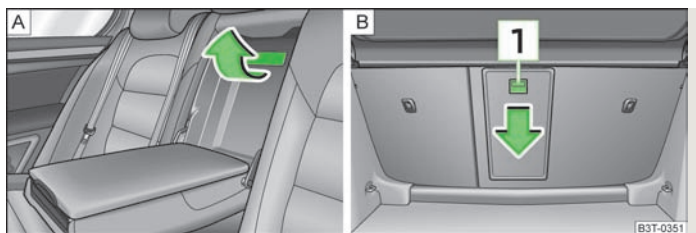

Fig. 100 Rear seats: Cover handle/luggage compartment: Unlock button
- Pull the handle upwards to the stop and fold the cover down » Fig. 100 - A.
- Push the unlock button **1** » Fig. 100 down and fold the cover (including the armrest) forwards.